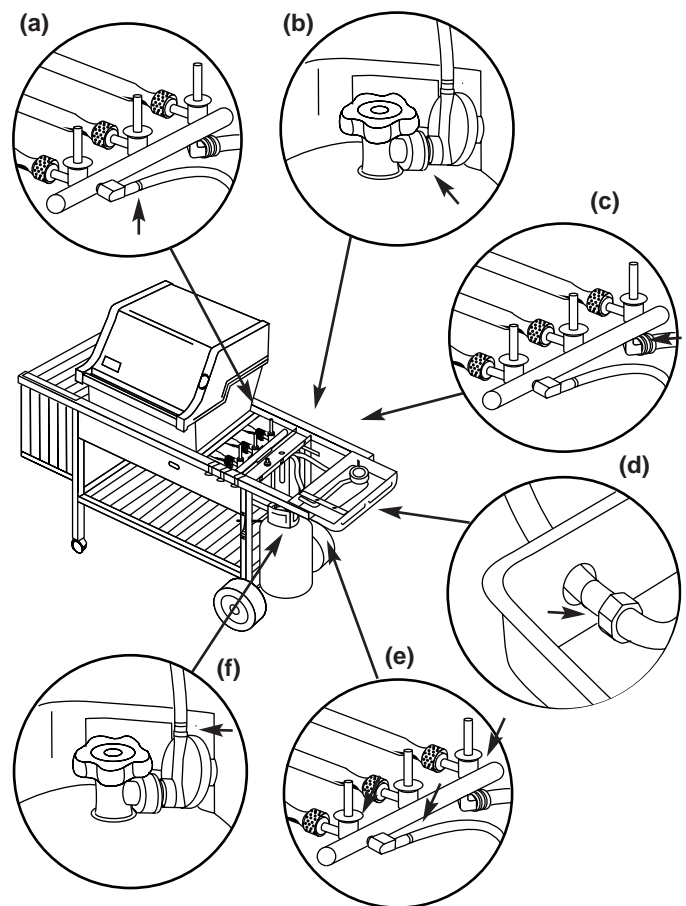

Figure 10
- a) Hose to manifold connections. Figure 10 (a).
- b) Regulator to tank connection. Figure 10 (b).
- c) Manifold to side burner hose connection. Figure 10 (c).
- d) Side burner hose to side burner connection. Figure 10 (d).
- e) Valves to manifold connection. Figure 10 (e).
- f) Hose to regulator connection. Figure 10(f).